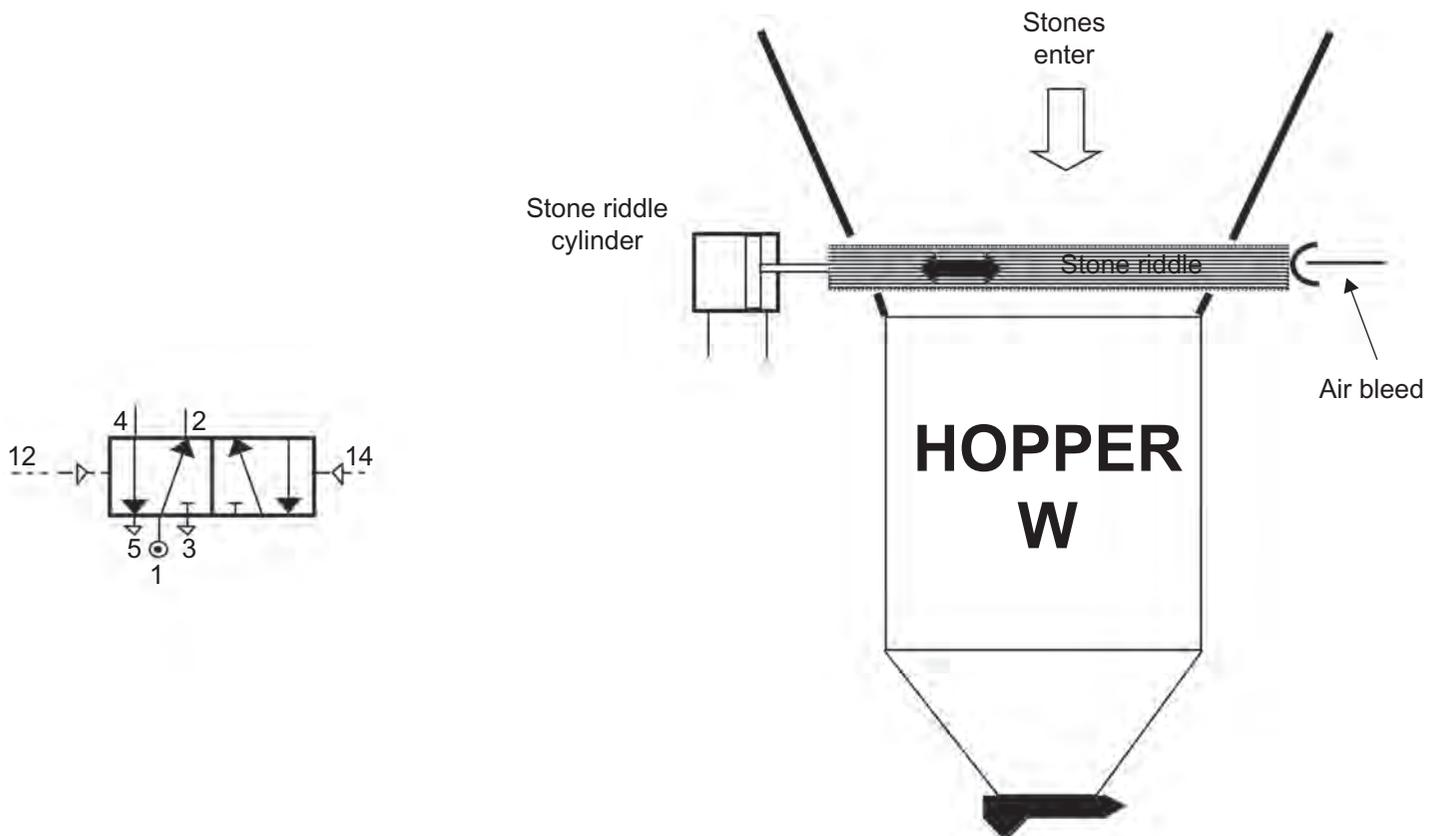

Fig. 4(d)(i)
- (i) Use the air bleed in **Fig. 4(d)(i)** to activate the stone riddle cylinder to reciprocate automatically with speed control. This will allow the quarry stones to be riddled and will prevent larger stones passing into hopper W. [5]
- (ii) Use a proximity sensor in **Fig. 4(d)(ii)** to detect when hopper Z is full of stones. Once detected, cylinder A will go positive, allowing the bell to be struck once via a suitable mechanism involving the pivot. Hopper Z will empty immediately and the return of the cylinder will happen after a short time delay using the exhaust air from cylinder A.